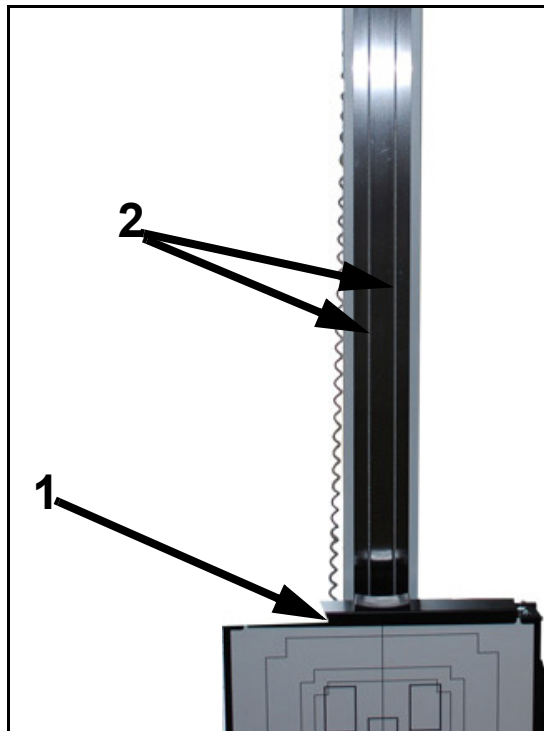

Figure 4-1. Counterweight Cable (Typical)
- 1 Move the cassette tray holder (1 in Figure 4-1) to its lowest position.